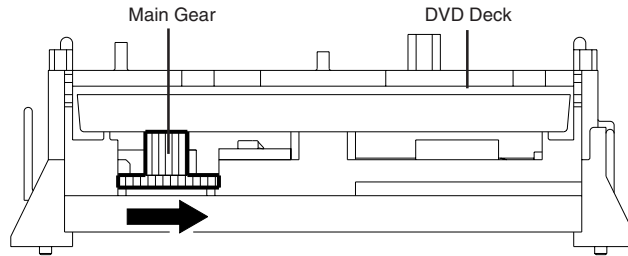

Fig. 1
1. Remove the Top Cabinet and Front Cabinet. (Refer to item 1 of the DISASSEMBLY INSTRUCTIONS.)
2. Rotate the Main Gear in the direction of the arrow by hand. (Refer to Fig. 1)